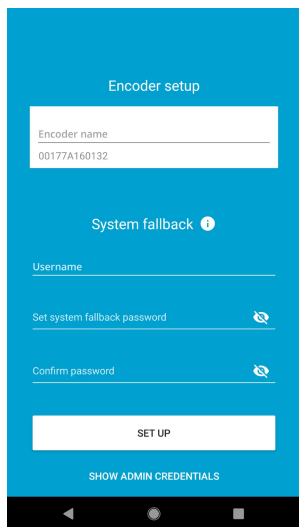
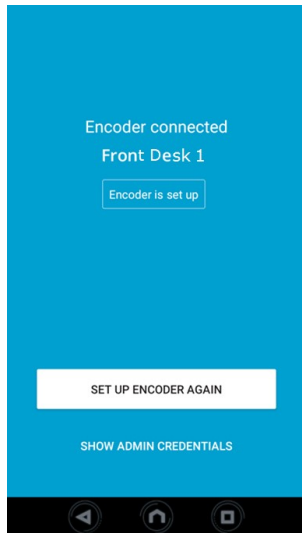
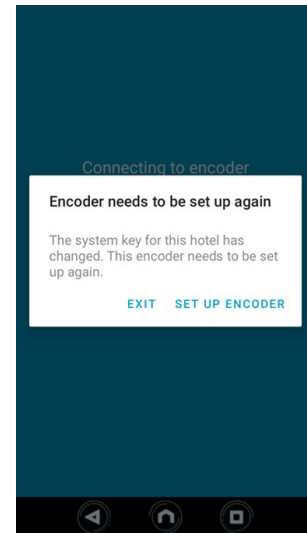

Figure 9
Figure 12
Figure 14
8. *Figure 9*: When the encoder has been updated with the latest apps, Vostio Service Tool will show a screen as in *Figure 9*. Enter the desired **Encoder name**; this is the name which will be shown on the encoder display as well as in the drop-down-list for encoders in the upper right corner of Vostio Web Portal.
1. If a screen as in *Figure 12* is shown instead of *Figure 9*, the encoder is already set up to the system and has been given the name 'Front Desk 1'.
2. If a screen as in *Figure 14* is shown instead of *Figure 9*, the encoder already belongs to another system. To set up the encoder so it gets the same system key as the Android device, click **Set up encoder** on the screen shown in *Figure 14*. The screen shown in *Figure 9* will be shown; follow the procedure described in steps 8-12 of the *Encoder setup* section.